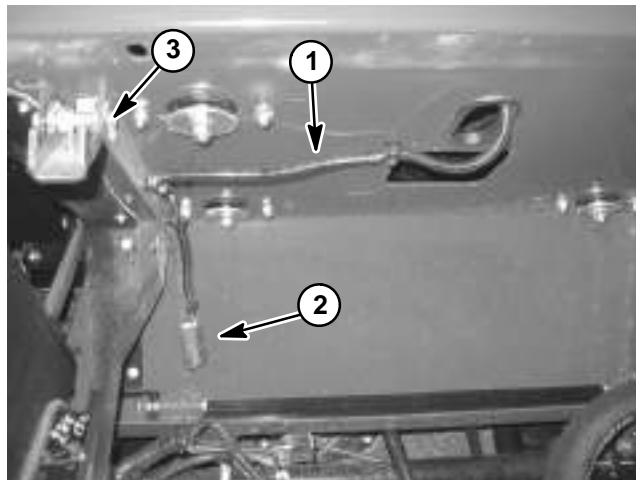

Figure 48
The seat switch is normally open and closes when the operator is on the seat. If the traction system or PTO switch is engaged when the operator raises out of the seat, the engine will stop. The seat switch and its electrical connector (Fig. 48) are located directly under the seat.
4. Disconnect machine wire harness electrical connector from the seat switch harness electrical lead under the operator seat (Fig. 48).